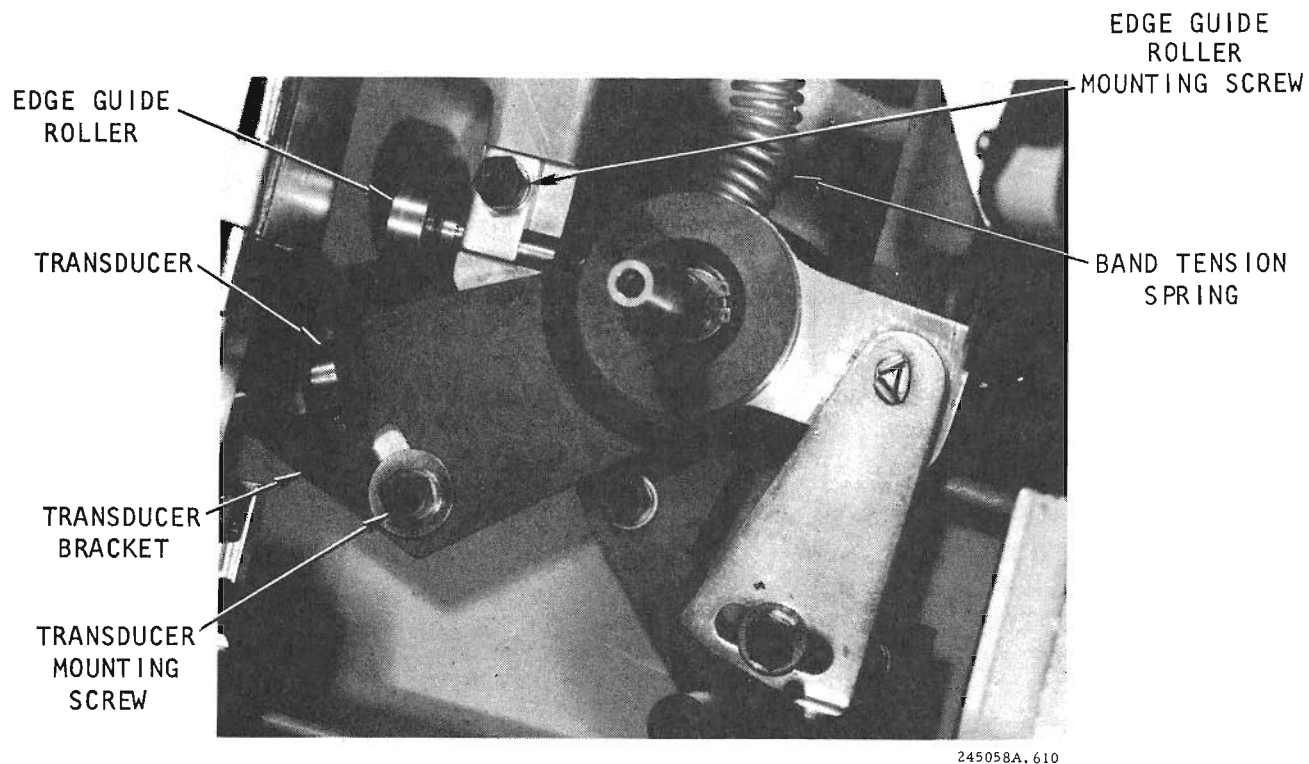

Figure 6-10. Transducer Bracket
- d. Remove the transducer bracket mounting screw (figure 6-10), lift bracket and move to the side.
Perform steps a - c. Remove the mounting screw securing the edge guide roller (figure 6-10). Remove the C-ring and pull the bearing off the shaft.